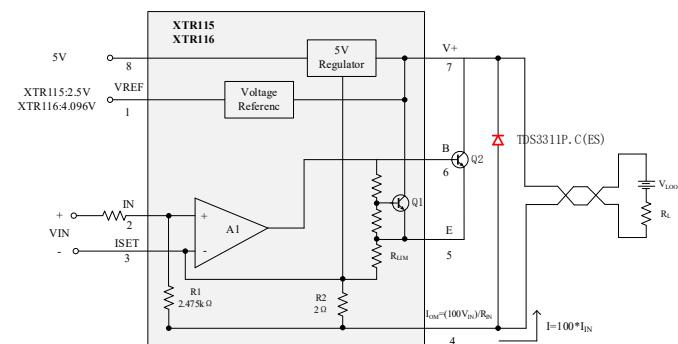

Fig. 4 Surge protection scheme for 4-20ma transmitters
The typical application of TDS3311P.C(ES) is the analog output module on the PLC in Fig.4. In this case, TDS3311P.C(ES) protects the 4-20mA transmitter of XTR115, which is a standard transmitter with a nominal voltage of 24V and a maximum input voltage of 40V. The industrial interface requires $\pm 1\text{kV}$ surge test protection through a 42Ω coupling resistor and a $0.5\mu\text{F}$ capacitor, which is equivalent to about 24A surge current. If there is no input protection, when lightning, coupling, ringing or other overvoltage conditions cause surge events, the input voltage will rise to hundreds of volts in a few microseconds, exceeding the absolute maximum input voltage, which will cause damage to the equipment. The ideal surge protection diode will maximize the operating voltage range and can be clamped within the safe voltage range of the system. The TDS technology introduced by Hunan Jingxin provides the best protection solution. TDS3311P.C(ES) is used to protect the device. During surge events, when the voltage rises to 38.7 V, the TDS3311P.C(ES) will be quickly triggered to instantaneously shunt the surge current to the ground. Because TDS3311P.C(ES) uses a built-in rated surge field